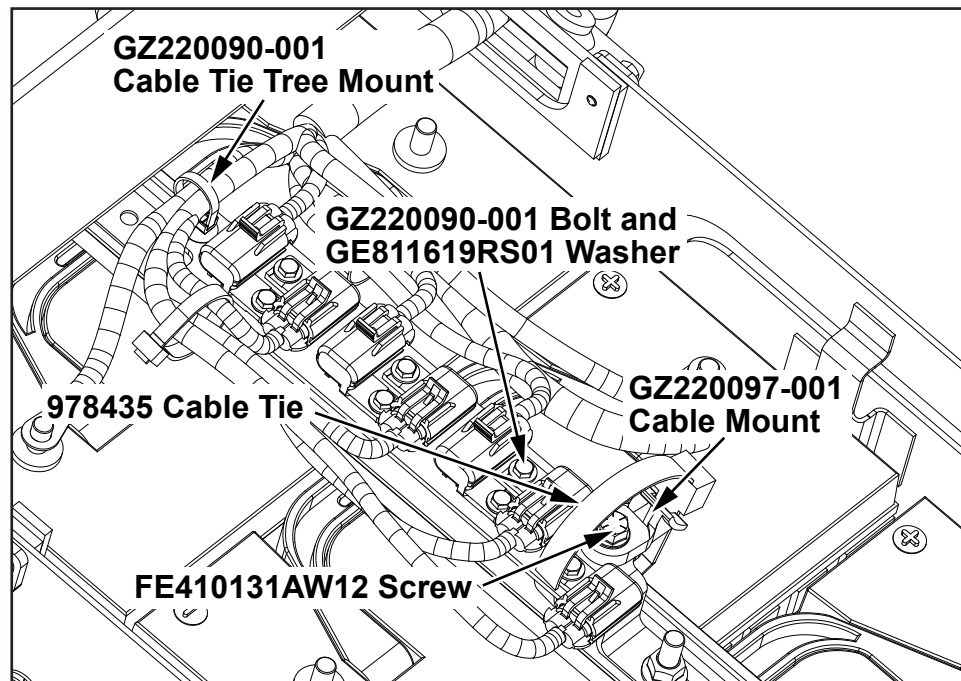

Figure 10
17. Install the GZ220097-001 cable mount on the fuse holder bracket using the FE410131AW12 screw and install the GZ220090-001 cable tie tree mount into the fuse holder bracket. Route the A8710105-005 harness into the battery box and install each fuse onto the fuse holder bracket using (7) GE811619RS01 washers and (7) GZ220090-001 bolts. Utilize a 978435 cable tie and the GZ220090-001 to secure the harness (see Figure 10).